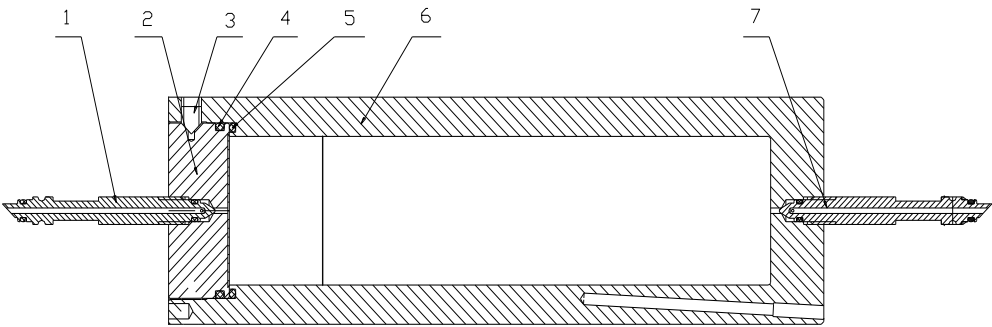

图 1 (Figure 1)
1) 单孔杯：按（图 1）所示的“7”将带有密封圈的连通阀杆旋入泥浆杯底并拧紧。
1) Slurry cup with single hole: according to the “7” (shown in Figure 1), the valve stem with sealing ring is screwed into the bottom of the slurry cup and tightened.